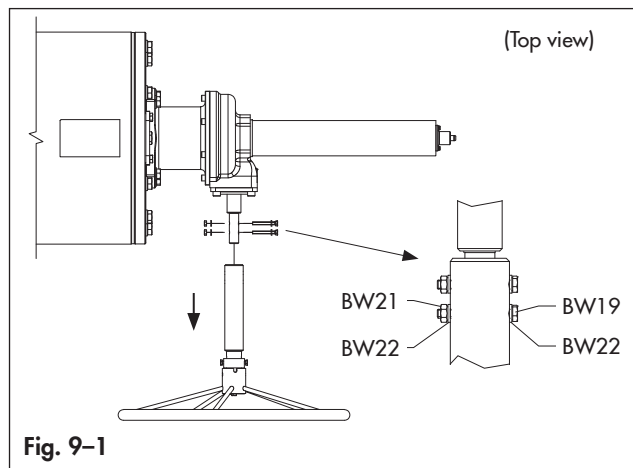

Fig. 9-1
- Remove the handwheel from the bevel gear unscrewing the bolts (BW19) and nuts (BW21) along with the washers (BW22). (Fig. 9-1)